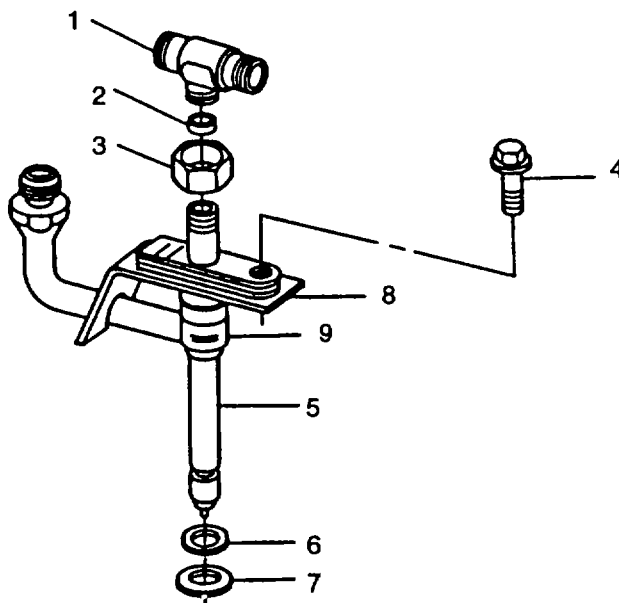

FIGURE 3-112. Fuel Injection Nozzle
- a. Loosen coupling nut (3, FIGURE 3-112) and remove tee (1) from nozzle (5). Remove and discard grommet (2).
- a. Remove carbon stop seal (6, FIGURE 3-112) and upper sealing washer (7), using a needlenose pliers. Discard seal and washer.
Each time an injection nozzle is removed from cylinder head, replace carbon stop seal (6, FIGURE 3-112) with a new one.
- b. Make sure that sealing surface of the cylinder head (on which the seal washer (7, FIGURE 3-112) will be resting) is smooth and free of damage or dirt. This could prevent proper sealing. Dirt and roughness could also cause distortion to nozzle when the attaching bolt (4) is tightened, making the valve stick.
- c. Install nozzle (5) in cylinder head using a slight twisting motion as nozzle is seated in bore.
- d. Install bolt (4). Do not tighten bolt (4) at this time.